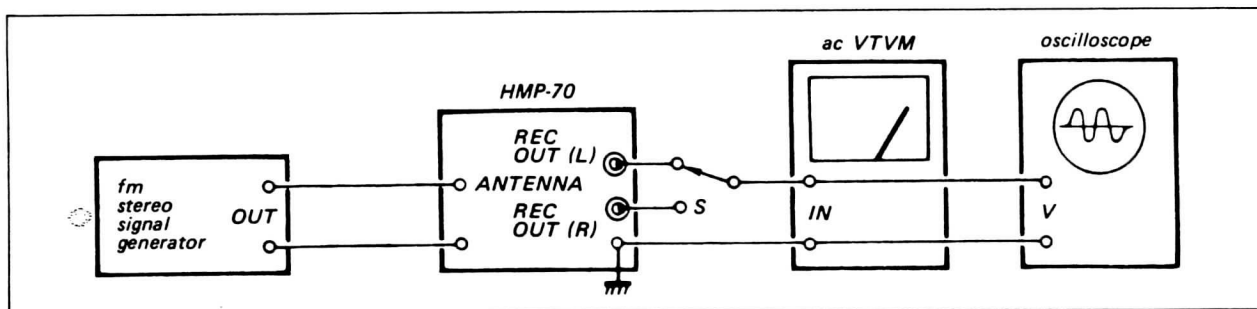

Fig. 3-9. Fm stereo separation adjustment setup
2. Connect the equipment as shown in Fig. 3-9, then set the fm stereo signal generator controls as follows: